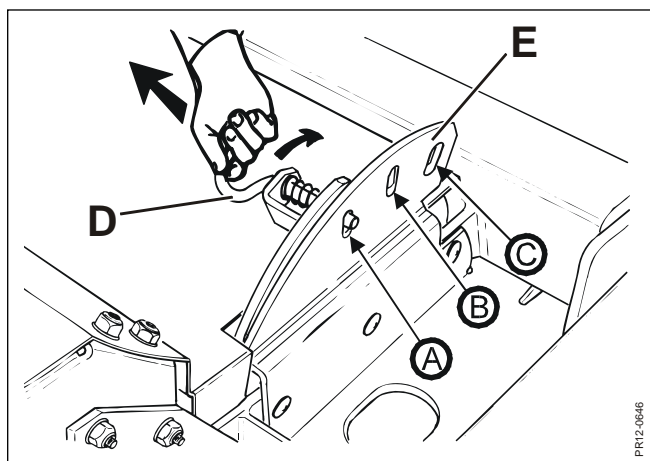

Fig. 3-16
Fig. 3-16 The system is controlled by the handle **D** that can be placed in 3 positions on the bracket **E**. If the handle is placed in pos. (A), the distance between the conditioner plate and the conditioner fingers is small, in pos. (B) the distance is medium and in pos. (C) the distance is big.